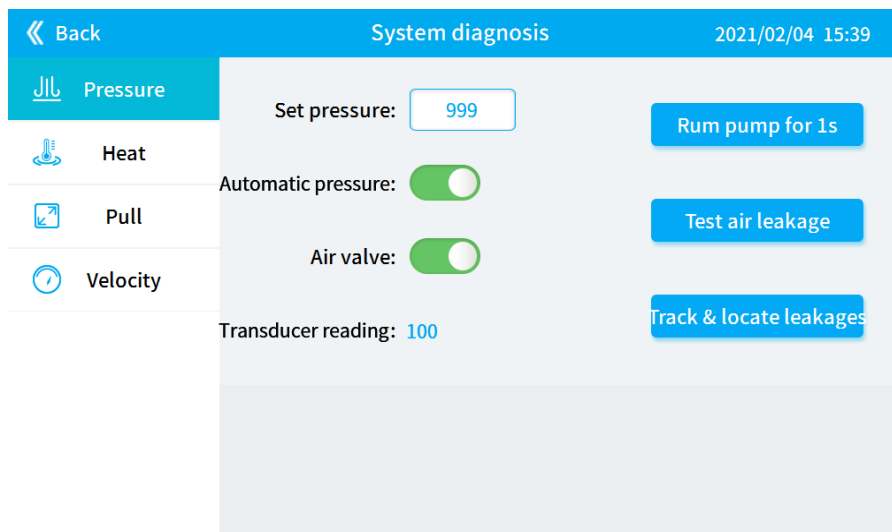

Figure 6-19
- 3) Remove the fixing screws①, ②, ③, ④.
- 5) Tighten the fixing screws①, ②, ③, ④.
- 6) Connect the left hose, enter the [Pressure diagnosis] interface as shown in Figure 6-19, set [Set pressure] to 999, turn on [Automatic pressure] and [Air valve], turn on the air pump and spray for a few minutes to remove the dust in the canister.